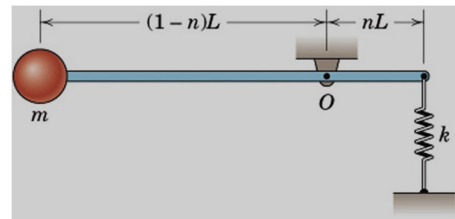

Fig. 10
Q. No. 5 Rod ABC (Fig. 10) is attached to blocks A and B that can move freely in the guides shown. The constant of the spring attached at A is $k=3$ kN/m, and the spring is unstretched when the rod is vertical. For the loading shown, determine the value of θ corresponding to equilibrium.